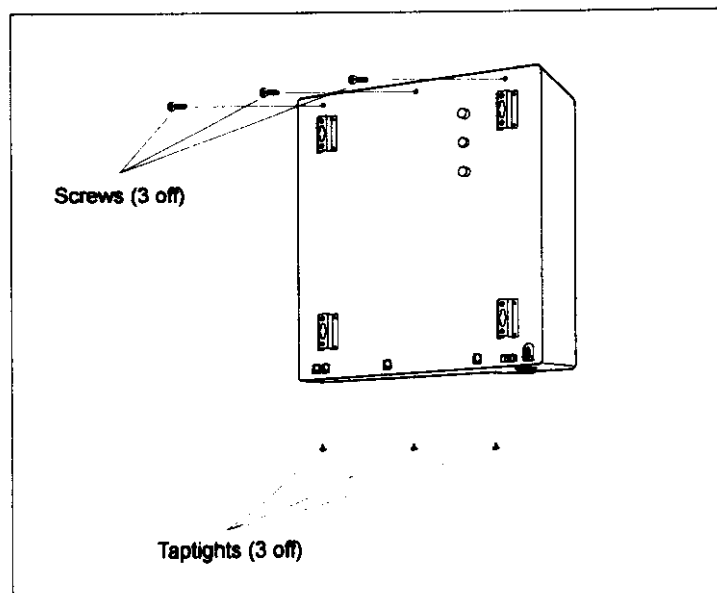

Figure 10.2: Wall Mount Cover Removal
- 3 Identify the three taptights inserted into the cover through the terminal chassis. They are located near the connectors on the terminal (see Figure 10.2). Remove the taptights and their associated washers, and store them in a safe place.